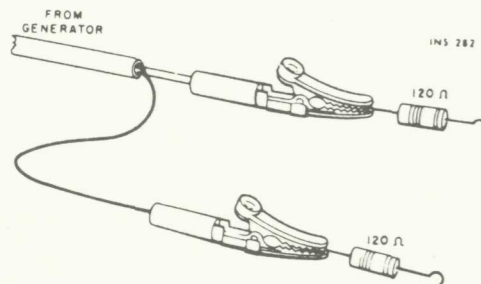

FIGURE 1. CONNECTIONS TO PROVIDE 300-OHM GENERATOR OUTPUT IMPEDENCE. MATCHING RESISTORS REDUCE GENERATOR VOLTAGE BY HALF AT THE ANTENNA TERMINALS.
- Set TUNING dial pointer to zero (0) calibration mark on the logging scale. If the dial pointer does not coincide with the 0 at the extreme end of the knob rotation, reposition the pointer assembly on the dial cord and cement the pointer in place to prevent slippage.
- Connect an RF generator to the 300Ω antenna terminals. Use a 120-ohm composition resistor in series with each lead from the generator—see Figure 1. Set ANTENNAS SELECTOR switch to 300 OHM position.